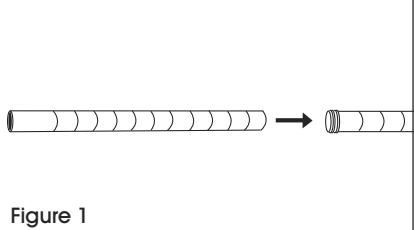

Figure 1
1. Connect post tops to post bottoms with a post connector. (See Figure 1)